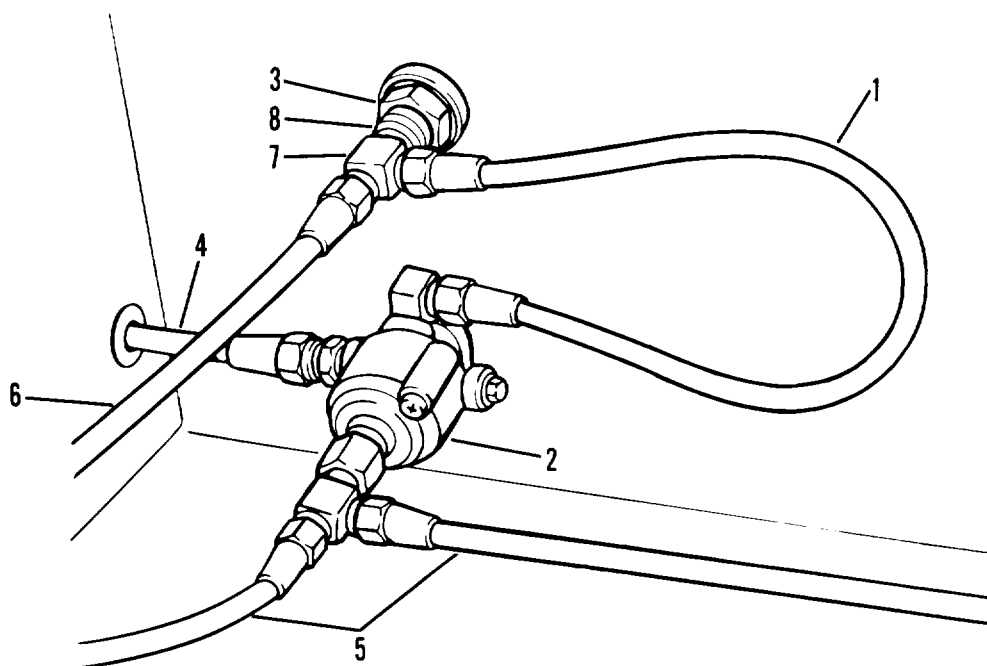
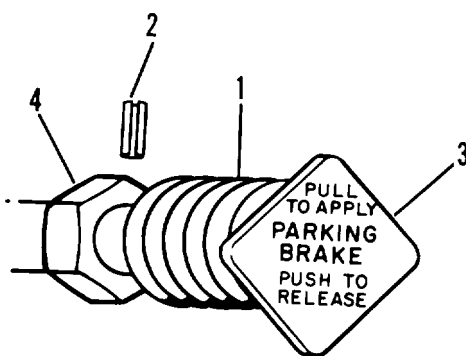

Figure 4-28. Parking brake and air charging system control valves
Figure 4-29. Parking brake control valve
- (1) Tag and disconnect air line (1, figure 4-28) between parking brake control valve (2) and air charging system control valve (3).
- (2) Tag and disconnect air lines (4 and 5) on parking brake control valve (2).
- (3) On the outside of the semitrailer, pull boot (1, figure 4-29) away from frame rail until roll pin (2) is visible. Remove roll pin (2).
- (4) Remove control valve handle (3) and boot (1).
- (5) Remove locknut (4).
- (7) Remove parking brake control valve assembly (2, figure 4-28) from behind frame rail.
- (1) Install parking brake control valve assembly (2, figure 4-28) from behind frame rail.
- (2) Install locknut (4, figure 4-29) from outside of frame rail.
- (3) Install boot (1) and control valve handle (3).
- (4) Align holes in control valve handle (3) and install roll pin (2). Make sure roll pin (2) is centered.
- (5) Pull end of boot (1) on the flange of locknut (4).
- (6) Connect air line (4 and 5, figure 4-28) on parking brake control valve (2).
- (7) Connect air line (1) between parking brake control valve (2) and air charging system control valve (3).
- (8) Close drain cocks on air reservoirs.
- (9) Charge air system (para. 4-35).
- (2) Tag and disconnect air line (6) from air charging system control valve (3).
- (3) Remove tee (7) and lockwasher (8).
- (4) Remove air charging system control valve (3).
- (1) Position air charging system control valve (3, figure 4-28) on frame. Install lockwasher (8) and tee (7).
- (2) Connect air line (6) to air charging system control valve (3).
- (3) Connect air line (1) between parking brake control valve (2) and air charging system control valve (3).
- (4) Close drain cocks on air reservoirs.